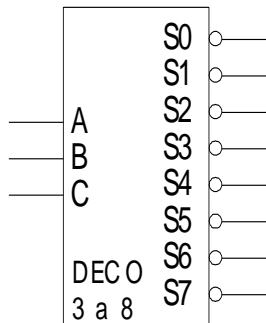
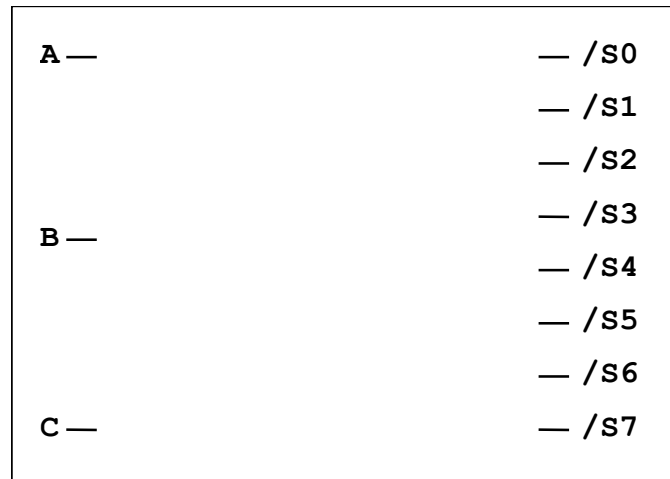

Figure 2. Logic Symbol of a 3 to 8 Decoder
Figure 3. Circuit implementation
- c) Using the decoder's composition technique a 3 to 8 decoder must be built. It is necessary to use the two 2 to 4 Decoders of the circuit 74139 plus a NOT gate for designing and implementing in the trainer. The logical symbol of the circuit to implement is shown in figure 2. (NOTE: The implemented circuit does not have enable input). Draw a possible implementation in figure 3.